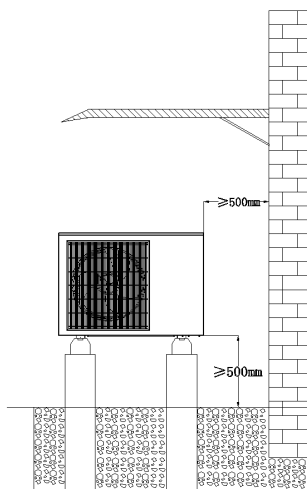

Figure 2
2. Figure 2: The service panel side of the unit faces the fence or wall. Maintain a minimum clearance of 500 mm between the unit and the wall, and install the unit at least 500 mm above ground level.